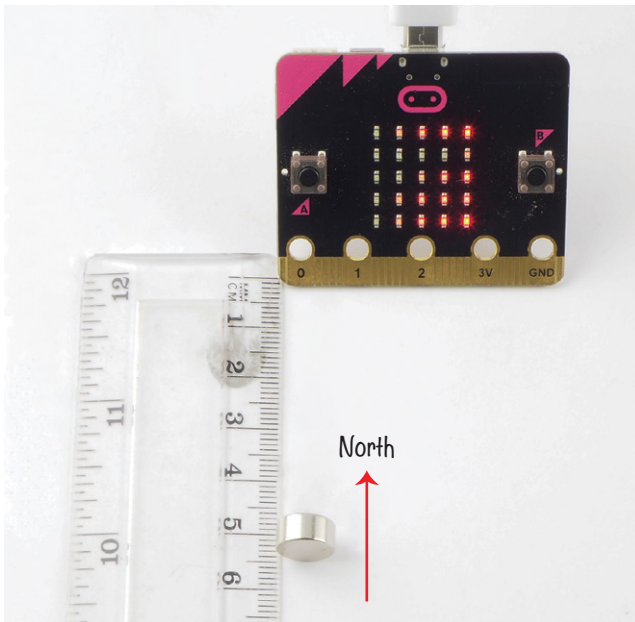

Figure 4-7: Place the ruler in the north-south direction to make sure your magnet continues to face north.
3. Align your ruler so the 0 cm mark is pointing north and the 30 cm mark is pointing south, as shown in Figure 4-7. The ruler allows you to make sure the magnet continues to face north so that the effect of Earth's magnetic field remains constant.